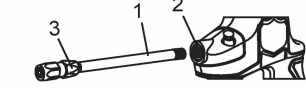

Fig. 3
1. Thread the grease pipe (1) counter clockwise into the matching hole (2) in the front of the grease gun (Fig. 3).